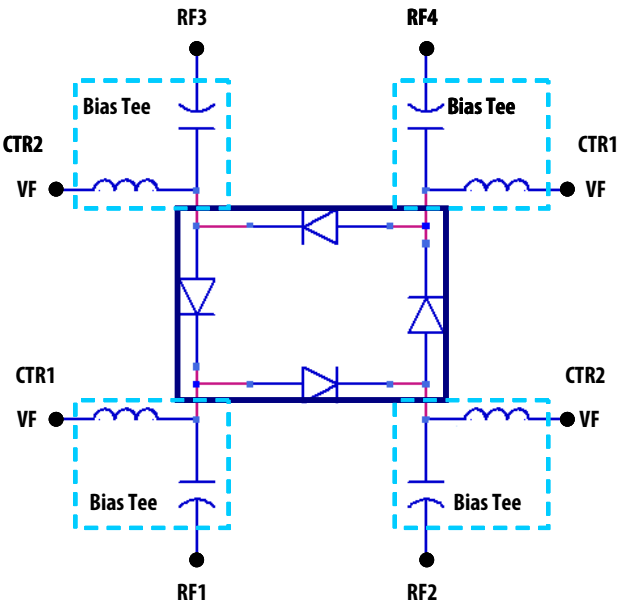

Figure 7. A diagram showing the application circuit for Diversity Switch using HSMP-386D.
4. Measurement obtained using the demoboard described in Figure 7 & 8.